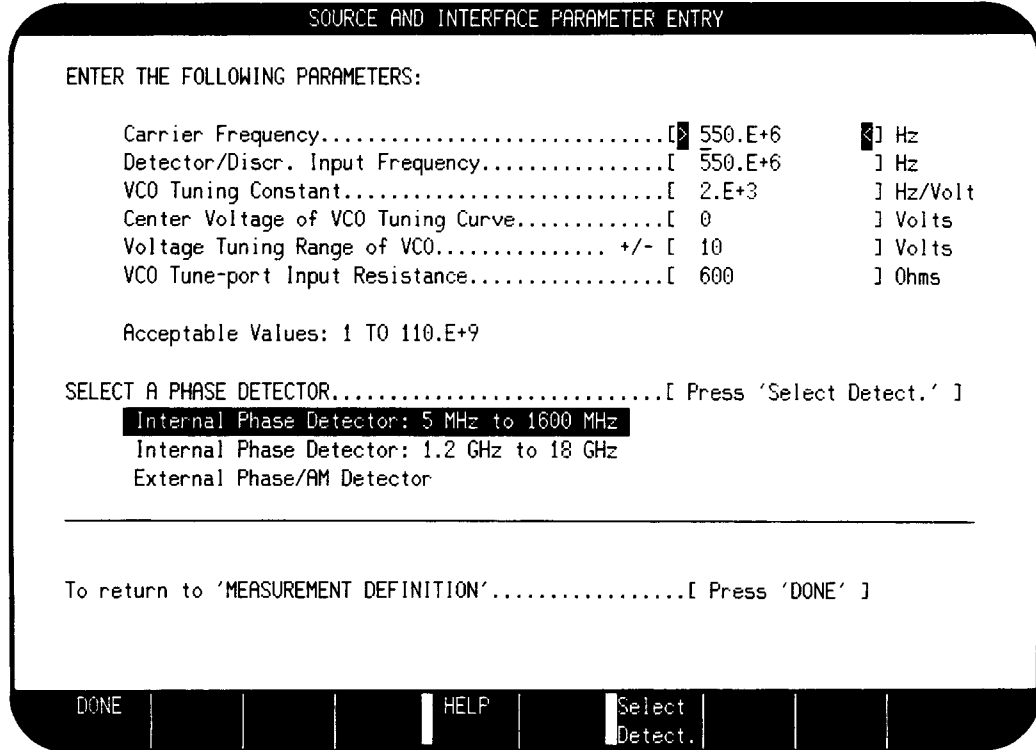

Figure 3-8. Source and Interface Parameter Entry Menu
- 7. On the HP 3048A press the **Instr. Params** softkey to obtain the Source and Interface Parameter Entry menu. Set the parameters and phase detector as shown in figure 3-8. When done, press the **DONE** softkey.